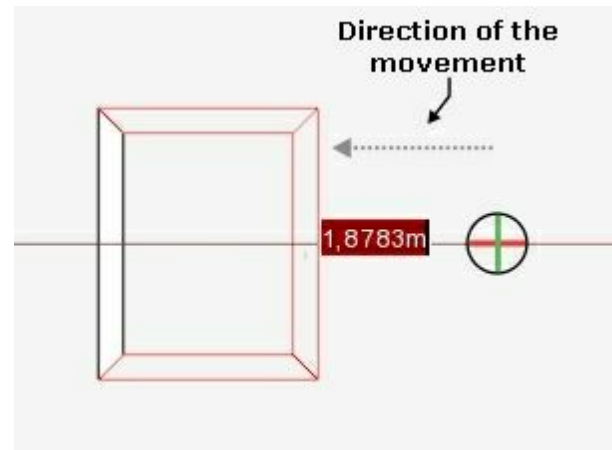

Figure 3
2. You can now **change the angle** of the wall **as well as its length** by simply **moving** your mouse **sideways or up and down**. The reference point is automatically placed at the opposite end of the wall, the location of which remains unchanged (see Figure 3). All values displayed along the wall relate to the reference point.
2. You can **move the wall up and down or sideways**. In Figure 3, for example, the wall was moved to the left starting at the reference_point. Both adjacent walls were shortened accordingly. The room compound was obtained.